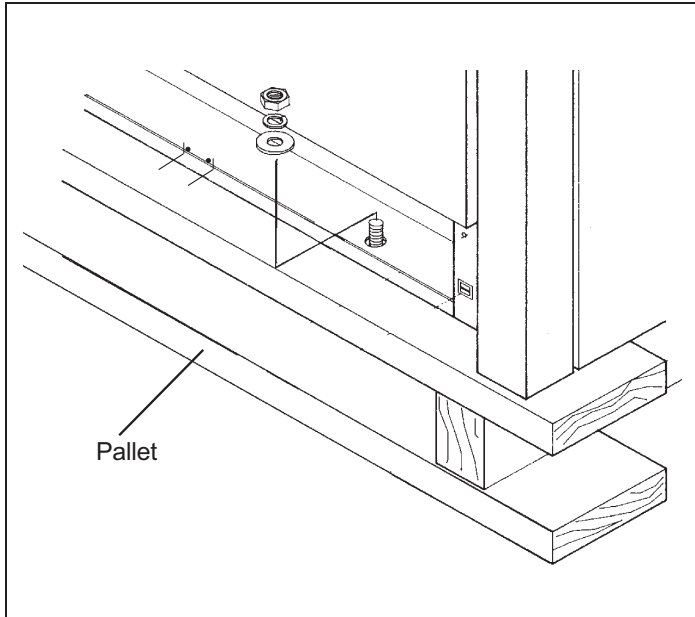

Figure 4: Removal of the Four (4) Shipping Bolts
- Remove the outer carton and packing material from the shipping base. The all gas ranges are held to the pallet by four (4) bolts (see Figure 4). After removing the bolts, the range must be lifted and removed from the pallet.